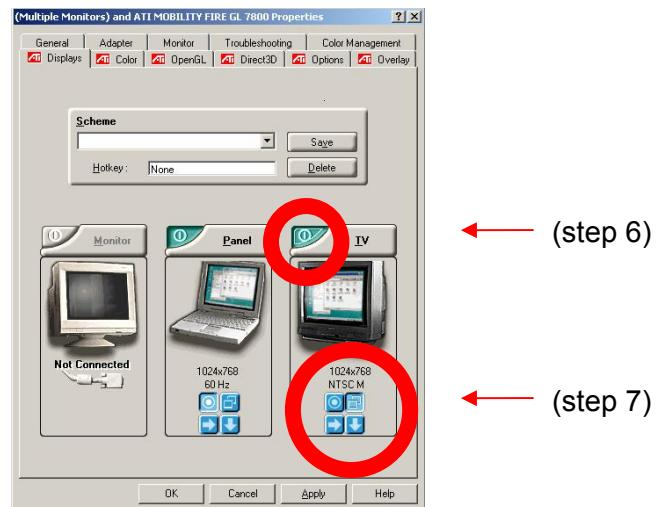

Figure 21-1.- Video Output
- | Click Red tab. Tab automatically turns green after selection (see fig 21-1)
7. ✓Blue double box (  ) on TV display highlighted (see fig 21-1)
Click Green tab. Tab automatically turns red after selection (see fig 21-1)